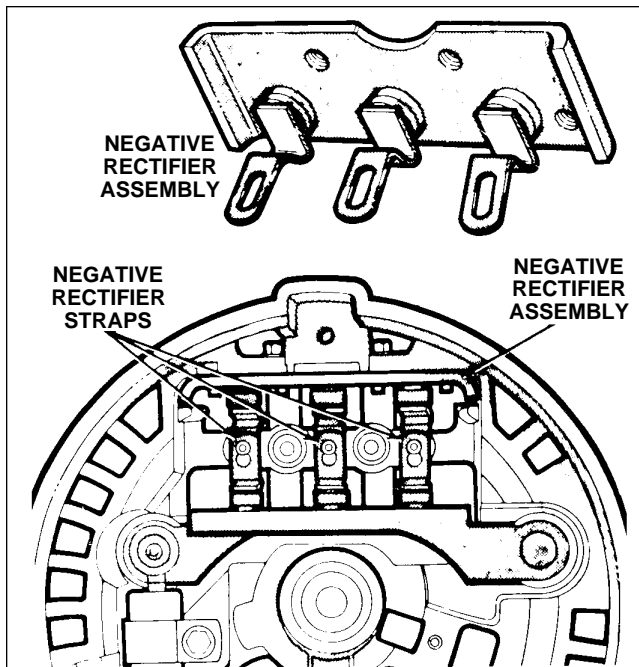

Figure 24-40. Installation of Chrysler Alternator Negative Rectifier Assembly
- o. Position stator over rectifier end shield assembly, and place winding terminals on terminal block studs. Press stator into end shield, and install terminal nuts. Tighten to a torque of 11 to 17 inch-pounds. (Refer to figure 24-40.)